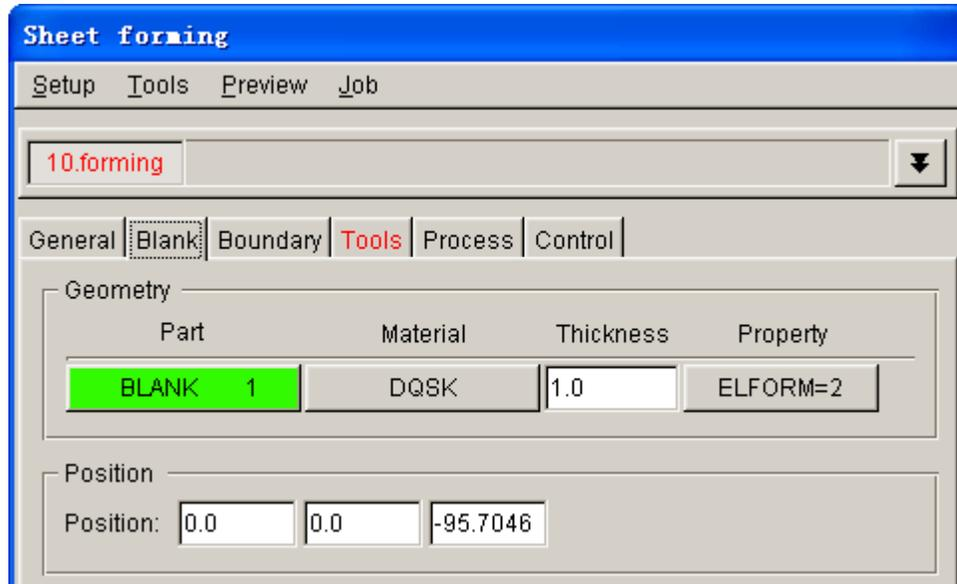

Figure 1.11 Blank definition interface
- Click the **Exit** button to return the blank definition interface. Now, the color of Blank tab is changed from RED to BLACK. See Figure 1.11.
Once the **BLANK** part is defined, the program automatically assigns a default blank material and relative property. You can also click the **BLANKMAT** button illustrated in Figure 1.11 to edit material definition.